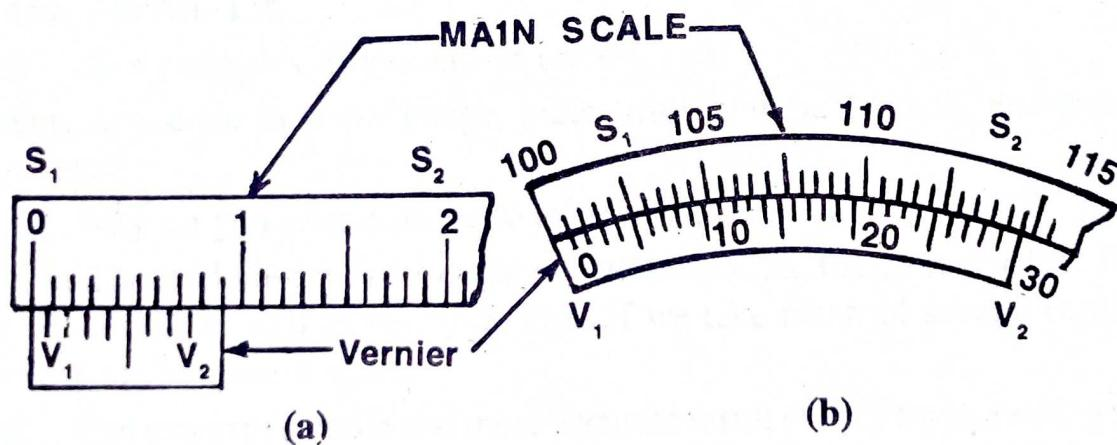

Fig. 2.1-1 : Vernier scale
This is a device (invented by P. Vernier in 1931) by which a very small length, even smaller than the smallest division of the main scale, can be measured very accurately. For this purpose a small auxiliary scale ($V_1 V_2$) known as the **vernier scale** is taken, which can slide along-side the main scale ($S_1 S_2$). [Fig. 2.1-1(a) shows a straight vernier with a linear scale and Fig. 2.1-1 (b) shows a circular vernier with a circular scale]. Usually, one division of the vernier scale is slightly smaller than one smallest division of the main scale. The length of the gap between one vernier division and one smallest division of the main scale is called **vernier constant**. This vernier constant (v.c.) is given by
- Example : (i) In the straight vernier shown in Fig. 2.1-1(a),
- (iv) In the circular vernier shown in Fig. 2.1-1 (b)